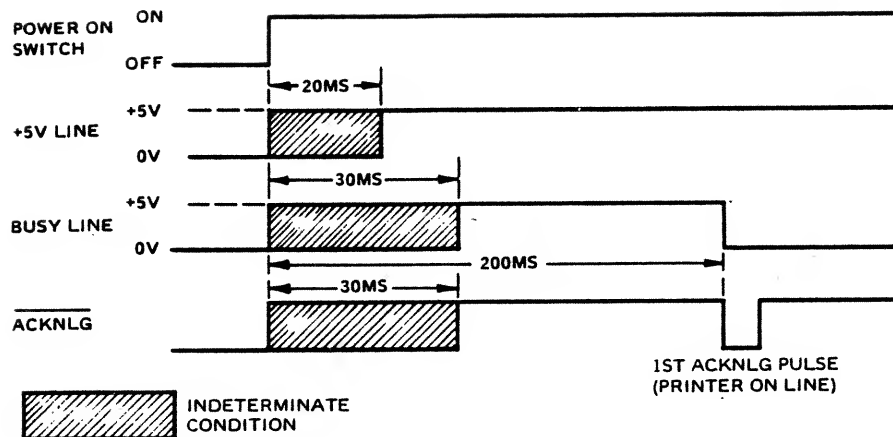

Figure 10. ACKNOWLEDGE TIMING ON POWER-UP
All logic, control, drive, and power supply circuits are contained on one printed circuit board within the printer (Figure 10). The print head is mounted on a carriage assembly driven by a DC motor. Printing is performed in the forward direction only (left to right), printing up to seven dots per column. The paper drive roller is driven by a line feed solenoid which advances paper one line (1/6 inch) each time the line feed solenoid is actuated. The ribbon drive motor (AC) moves ribbon past the print head at all times except when the carriage assembly actuates the sensor at the leftmost carriage position. The power supply provides +5V regulated, +5V EXT SENSE for host device sense, +12V regulated for motor drive, +17 for solenoid drive, and +24 VAC for the ribbon drive motor.
Figure 10 shows the acknowledge timing on power-up. When power is initially turned on, approximately 20 msec is required for internal voltages (+5V) to stabilize. Within 30 msec after power is turned on the BUSY signal is generated and the printer remains in the BUSY condition for the next 170 msec. The BUSY signal is then terminated and the printer generates the first acknowledge pulse indicating that the printer is no longer BUSY, is on line, and is ready to accept data. Data should not be sent to the printer until the first ACK signal is sent to the host device.